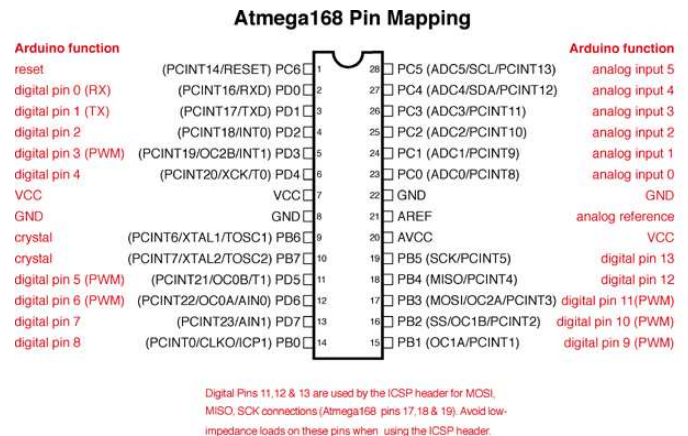

Fig. 1
1. Complete Table 1 for all the digital pins using Fig. 1.